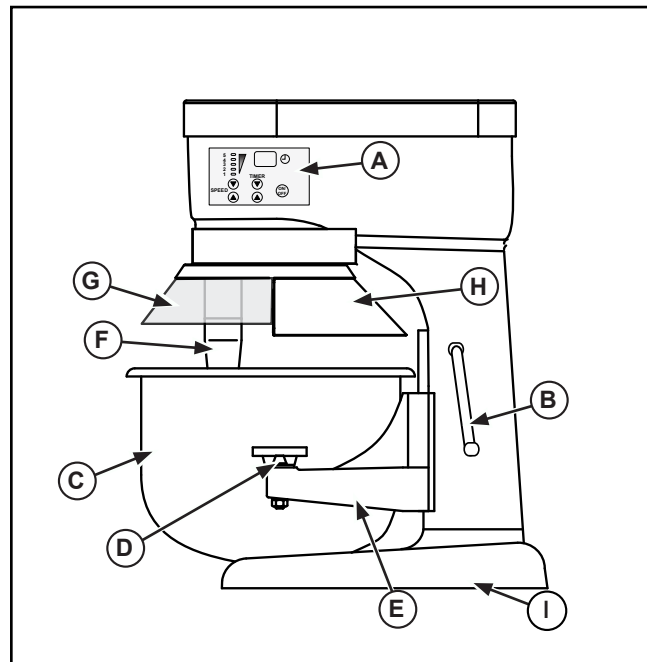

Figure 1. 7 Quart. and 10 Quart. Mixer, Features and Controls.
- Before attaching the bowl select the mixing attachment you will be using. Place your selected mixing attachment inside the empty bowl (C). Do not attempt to fit the mixing attachment onto the mixing shaft (F) before the bowl is in position. See Figures 1, 2, 3 or 4.
- Lower the bowl cradle to its lowest position by rotating the bowl lift (B).
- Rotate the bowl clamp levers (D) to the out or back position.
- Hold the bowl (C) so that the pin on the bowl is facing in towards the mixer. Position the bowl so that the pin is lined up with the pin slot on the bowl cradle (E). Slide the pin into the slot.
- Align the holes on the bowl tabs with the pins on the bowl cradle (E). Set the bowl (C) on the bowl cradle (E).
- Rotate the bowl clamp levers (D) to the front over the bowl tabs to secure the bowl (C) onto the bowl cradle (E).
- Install the attachment to the mixing shaft (F). Ailing the grove on the attachment with the pin on the mixing shaft. Push the attachment up and rotate to lock onto the pin.
- Raise the bowl (C) to its maximum height using the bowl lift (B) by rotating in a counter clockwise direction until it snaps into place.
- Close the bowl guard (G). See Figure 1. The safety guard must be closed for the mixer to operate. If the safety guard is open or not closed properly then the mixer will not operate.